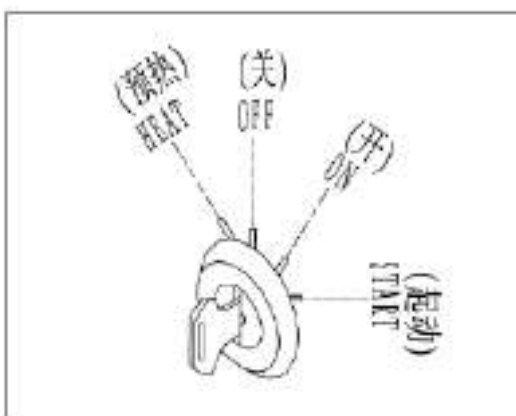

Figure 3-73 Starter switch
The starter switch (3) is used to start or shut down the engine as shown in Figure 3-73.